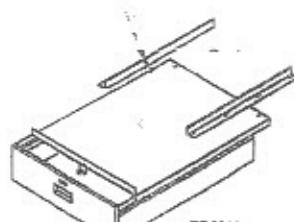

FIG. 7C
- Assemble two (2) long brackets to the top rear of the cover using two (2) 1/4-20x1/2" nuts and bolts. (To prevent any obstruction inside the drawer assembly, the bolts must come from the bottom pointing upwards.)
- For assembly to a 30" steel top, use the second hole from the end of the bracket to connect it with the drawer cover. For 36" steel top, use the third hole from the end of the bracket. (Figure 7C)
- Line up the front holes of the cover with those of the steel top's bottom flange in front and secure with two (2) 1/4-20x1/2" nuts and bolts.
- Secure the brackets with the top at rear with two (2) 1/4-20x1/2" nuts and bolts. Tighten all nuts and bolts and reinstall drawer.
- For assembly to non-steel top, mount cover directly on workbench using four (4) #14x3/4" wood screws.